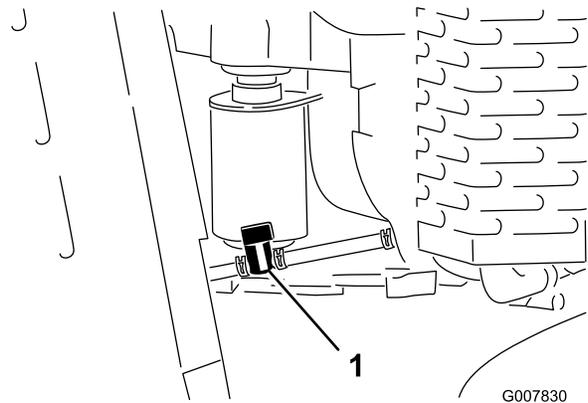

Figure 37
4. Turn the fuel shutoff valve to the closed position (Figure 37).
5. Squeeze the ends of the hose clamp on the engine side of the shutoff valve together and slide it up the fuel line away from valve (Figure 37).
6. Pull the fuel line off the valve (Figure 37).
3. Turn the fuel shutoff valve to the closed position (Figure 37).
7. Turn the fuel shutoff valve to the open position (Figure 37).